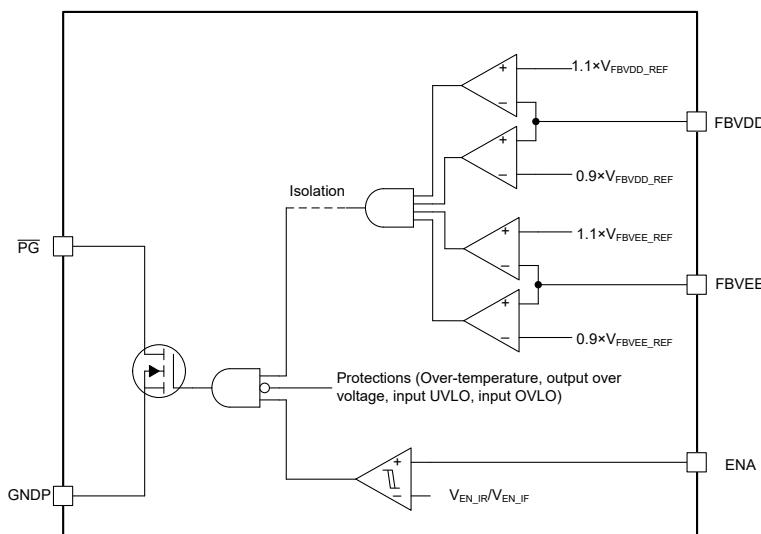

Figure 7-7. PG Pin Logic
The active-low power-good (PG) pin is an open-drain output that indicates (short) when the module has no fault and the output voltages are within $\pm 10\%$ of the output voltage regulation setpoints. Connect a pull-up resistor ($> 1k\Omega$) from PG pin to either a 5V or 3.3V logic rail. Maintain the PG pin voltage below 5.5V without exceeding its recommended operating voltage. The logic of PG pin can be illustrated using Figure 7-7.